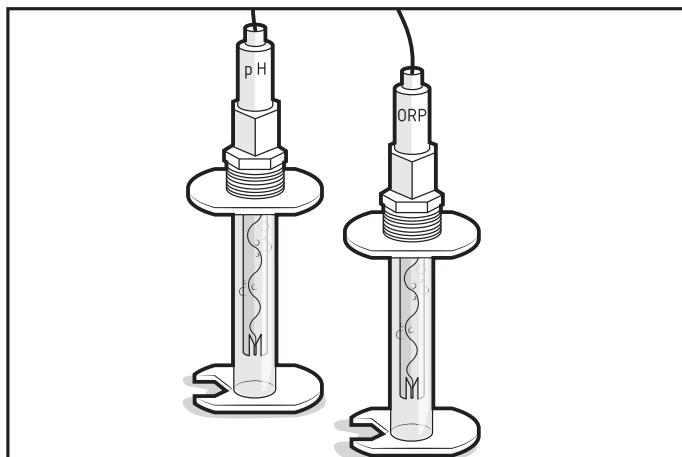

Figure 13. Store Sensors
7. Carefully place the sensors in the sensor storage tubes, DO NOT touch the glass bulb at the end of the sensors, see Figure 13.